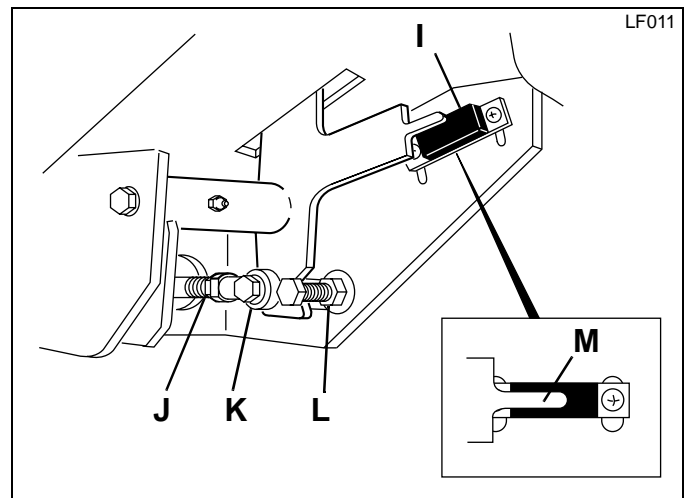

Figure 3E
4. Engage parking brake and set mow switch to neutral. Make sure neutral switch at traction pedal is closed. (Figure 3E - **M**)
6. Connect traction linkage. When connecting linkage at traction pedal make sure pointer on traction pedal bracket is centered over neutral switch (**M** -Figure 3E).